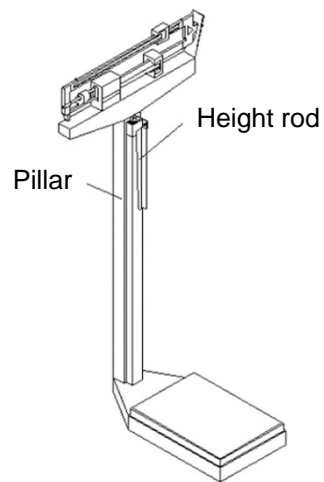

Fig 4.3
3. Remove the wrench from the two hex head screws. (Fig.4-3)